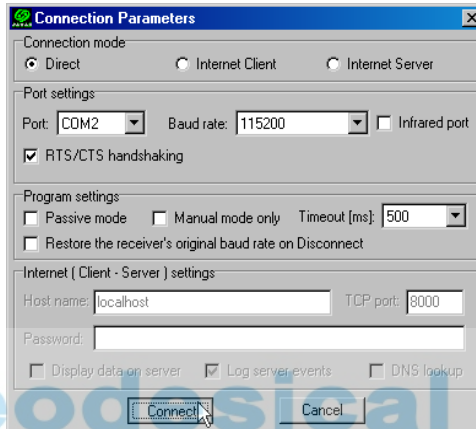

Figure 2-19. Connection Parameters – RTS/CTS Handshaking
3. On the **Connection Parameters** dialog box, enable RTS/CTS handshaking (Figure 2-19) and then click **Connect**.